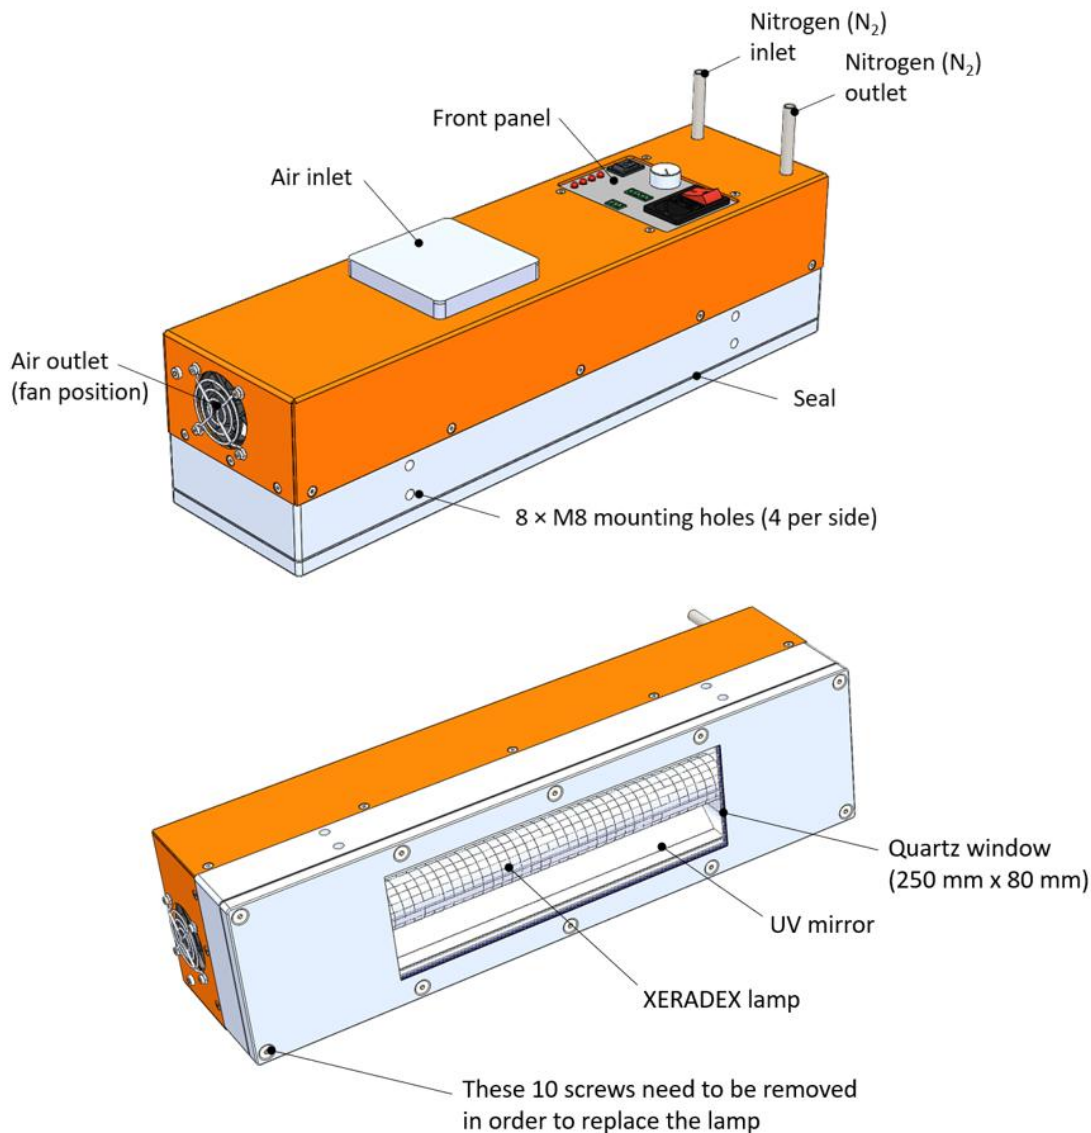

Figure 1: XIS Module
2. Remove the lower housing section by loosening the 10 screws (see Figure 1). Carefully detach it and set the housing part aside